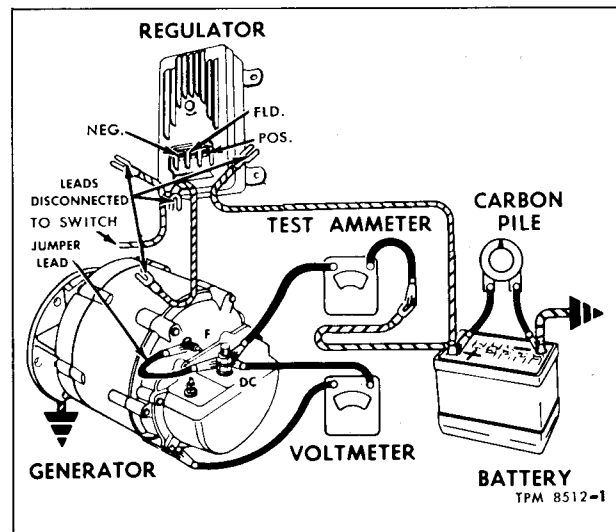

Figure 4—Checking Generator Output
GENERATOR OUTPUT CHECK (Fig. 4)
3. Connect a voltmeter and ammeter in circuit (shown in figure 4) as follows: